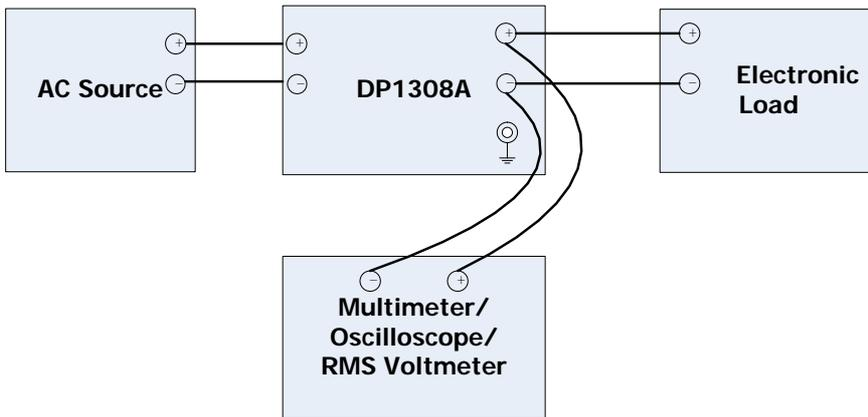
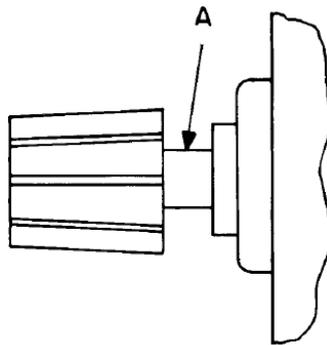

Figure 2-1 Test Connection (CV)
Figure 2-2 Output Terminal
During the measurement, the measurement error caused by the output terminal should be taken into consideration. Figure 2-2 is the schematic diagram of the output terminal of the power supply. As the output terminal is metallic conductor and has a certain contact resistance Δr , when the output current of the power supply is I , the terminal voltage is $V_e = \Delta r \times I$. Therefore, the voltage test point is generally located at **A** to reduce the error caused by the terminal voltage. Besides, the contact resistance generated by this terminal and the power output line and voltage feedback line inside the instrument would cause an offset (U_{offset}) of less than 2mV.
1. Turn off DP1308A. Connect DP1308A, AC source, electronic load and multimeter according to Figure 2-1. Note that the measurement probe or clip of the multimeter must be connected to **A** in Figure 2-2.
1. Turn off DP1308A. Connect DP1308A, AC source, resistive load (1.2Ω for +6V/5A channel; 25Ω for +25V/1A and -25V/1A channels) and oscilloscope according to Figure 2-1 (connect the positive terminal of the oscilloscope probe to the positive terminal of the output channel of the power supply and the ground terminal to the negative terminal. Note: you'd better use ground spring as ground wire so as to minimize the current coupling area between the probe tip and the ground wire and to minimize the space radiation interference).
5. Disconnect the oscilloscope and connect the RMS voltmeter as shown in Figure 2-1. Note that the measurement wires of the voltmeter should be twisted together to minimize the effect of the space radiation noise on the test. The output status of the power supply should be CV. Read and record the V_{rms} measured.
1. Turn off DP1308A. Connect DP1308A, AC source, electronic load and oscilloscope according to Figure 2-1.